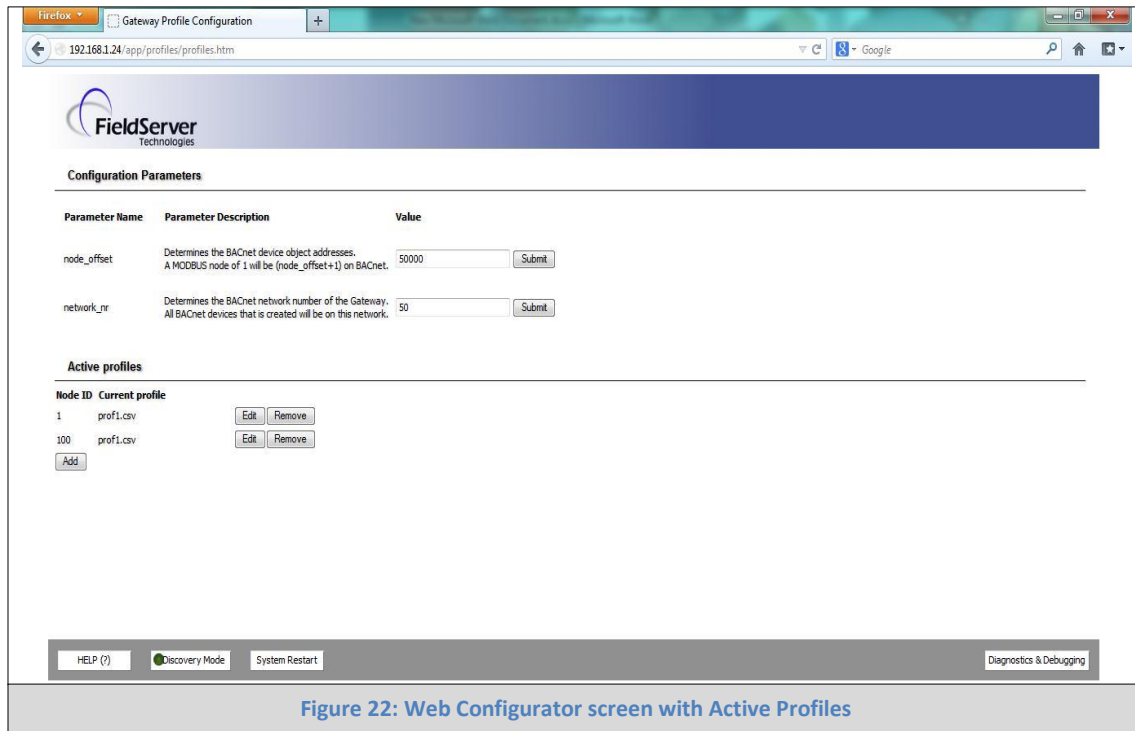

Figure 22: Web Configurator screen with Active Profiles
- The Web Configurator will be displayed as your landing page. (Figure 22)
- From the Web Configurator landing page (Figure 22), click on the “Diagnostics & Debugging” button in the bottom right side of the page to access the FST Web GUI.